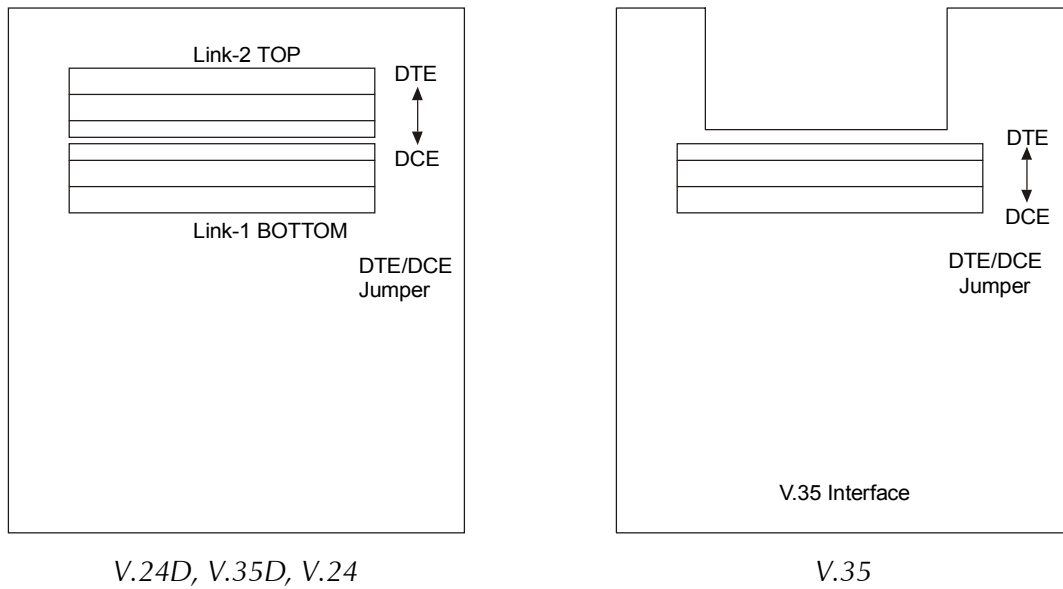

Figure 2-3. Link Interface Card
- DTE – for normal operation (see *Figure 2-3* for jumper locations).